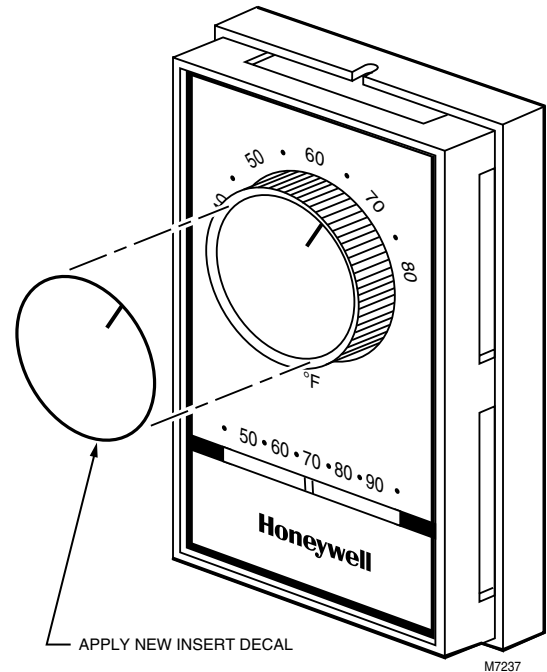

Fig. 6. Thermostat recalibration.
- ❶ Note the temperature difference between the thermostat setting and the thermometer.
- ❷ Turn the setting dial clockwise until the switch makes (clicking sound).
- ❸ Remove the adhesive backing of the indicator decal provided.
- ❹ Carefully align the indicator mark on the decal with the correct temperature setting number on the cover. See Fig. 6.
- ❺ Using finger pressure, secure the realigned decal on the center of the knob.
- ❻ Wait five minutes and recheck the calibration.